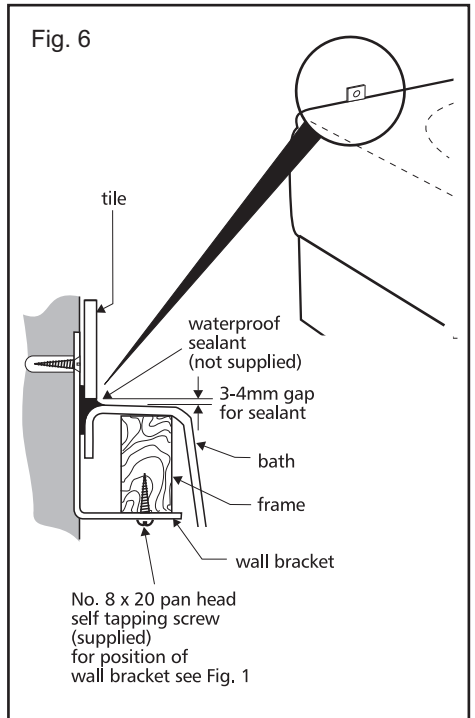

Fig. 6
9. Fix the two wall fixing brackets to bath frame as indicated in Fig. 6. Pilot drill holes in frame before fixing brackets.
10. Fix bath to wall (Fig. 6)
14. Tile down to the height of the bath rim leaving a 3-4mm gap for waterproof sealant, see Fig. 6. An extruded sealing strip can be used for the bath to wall joint as an alternative to waterproof sealant. Protect bath during tiling and uneven floors.